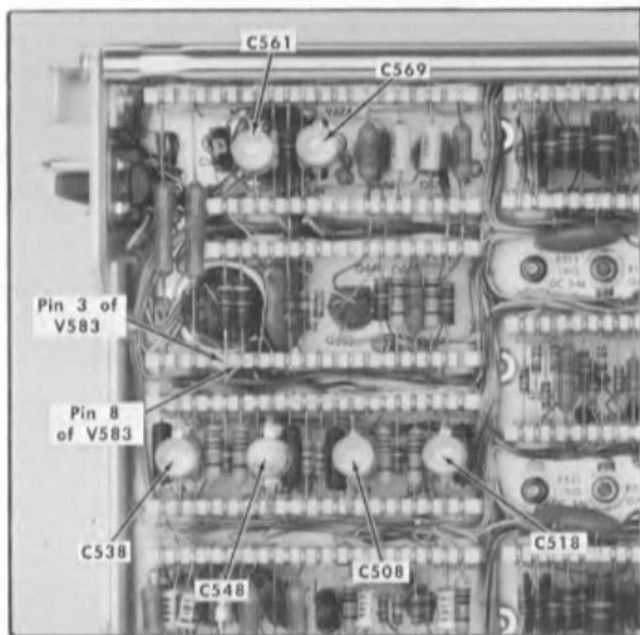

Fig. 6-23. Location of trigger amplifier high frequency compensation test points and adjustments.
- c. Connect a 10× probe from the vertical input connector of the test oscilloscope to pin 8 of V583, see Fig. 6-23.
- g. ADJUST—C508, see Fig. 6-23, until the test oscilloscope square-wave display has an optimum square leading corner and a flat top.
- i. Disconnect the 10× probe from pin 8 of V583 and connect it to pin 3 of V583; see Fig. 6-23.
k. ADJUST—C518, see Fig. 6-23, until the test oscilloscope square-wave display has an optimum square leading corner and a flat top.
o. Disconnect the 10× probe from pin 3 of V583 and connect it to pin 8 of V583; see Fig. 6-23.
r. ADJUST—C538, see Fig. 6-23, until the test oscilloscope square-wave display has an optimum square leading corner and a flat top.
t. Disconnect the 10× probe from pin 8 of V583 and connect it to pin 3 of V583, see Fig. 6-23.
v. ADJUST—C548, see Fig. 6-23, until the test oscilloscope square-wave display has an optimum square leading corner and a flat top.
y. Disconnect the 10× probe from pin 3 of V583 and connect it to pin 8 of V583; see Fig. 6-23.
aa. ADJUST—C561, see Fig. 6-23, until the test oscilloscope square-wave display has an optimum square leading corner and a flat top.
ac. Disconnect the  $10\times$  probe from pin 8 of V583 and connect it to pin 3 of V583; see Fig. 6-23.
ae. ADJUST—C569, see Fig. 6-23, until the test oscilloscope square-wave display has an optimum square leading corner and a flat top.